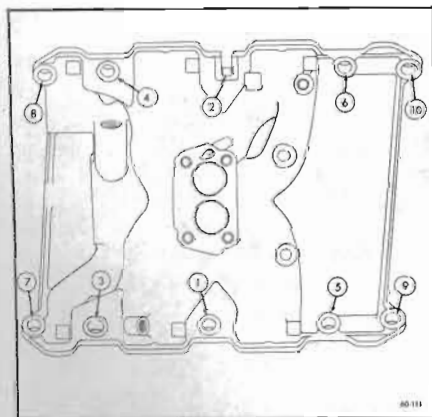

Figure 60-18—Intake Manifold Bolt Tightening Sequence
17. Install manifold attaching bolt in open bolt hole as shown in Figure 60-18. Open bolt hole is held to close tolerances and the bolt in this location serves to locate the manifold fore and aft.
18. Install remaining manifold to cylinder head bolts. Referring to Figure 60-18, tighten the #1 and #2 bolts until both are just snug. This will hold manifold in correct position when remaining bolts are tightened. Continue to tighten all bolts in illustrated sequence until all are torqued to 45-55 lb. ft.